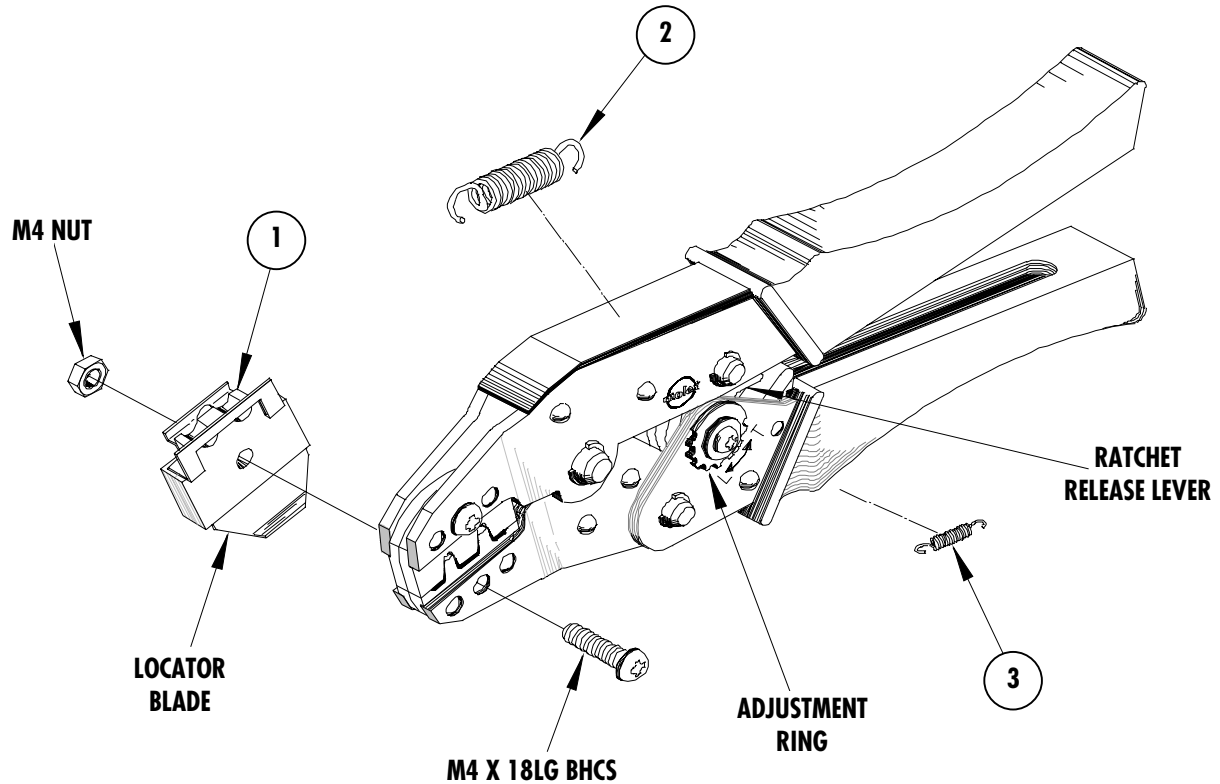

Figure 4
4. Close the tool until the ratchet releases. See Figure 4.
Should this tool ever become stuck or jammed in a partially closed position, **Do Not force the handles open or closed.** The tool will open easily by lifting the ratchet release lever (See Figure 4).
How To Adjust Tool Crimp Force (See Figure 4)